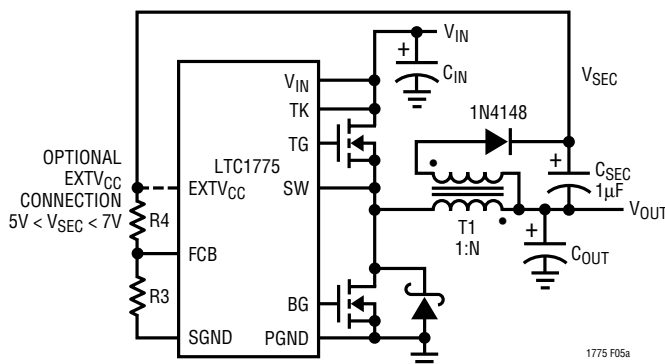
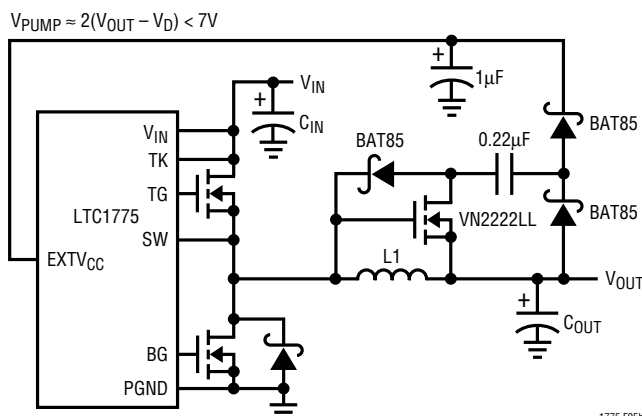

Figure 5a: Secondary Output Loop and EXTV_{CC} Connection
Figure 5b: Capacitive Charge Pump for EXTV_{CC}
3. EXTV_{CC} connected to an output-derived boost network. For 3.3V and other low voltage regulators, efficiency gains can still be realized by connecting EXTV_{CC} to an output-derived voltage which has been boosted to greater than 4.7V. This can be done with either an inductive boost winding as shown in Figure 5a or a capacitive charge pump as shown in Figure 5b.
The secondary output voltage V_{SEC} is normally set as shown in Figure 5a by the turns ratio N of the transformer: